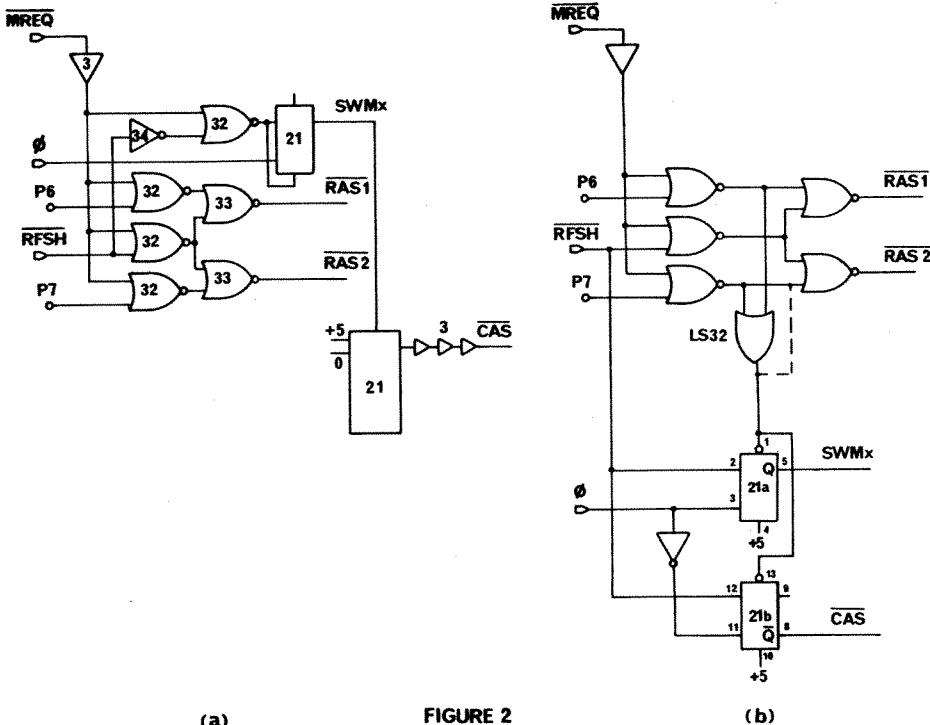

FIGURE 2
Now we have to produce a /CAS signal with an appropriate delay to replace the one generated by the multiplexer. There are various ways in which this could be done but an elegant solution, using only a single 74LS74, was shown recently by D. Allen (3). His circuit is shown in Fig. 2(b), and the relevant part of the original RAM A circuitry in Fig. 2(a). The latter uses only one half of the 74LS74, but by rewiring IC21 to the form of Fig. 2(b) both /CAS and the switch signal SWMx for the multiplexer can be generated. This works as follows: when /MREQ and /CS go low, /RAS is generated, thus latching the row address A0 to A7. At the same time, the reset line of both flip-flops goes high. The D input is /REF, which is high during memory access cycles, and so on the first positive edge of the system clock after /MREQ, IC21(b) flips, which switches the A8-A15 to the RAMs. On the next negative going clock edge, IC 21(a) flips /CAS low, latching the column addresses. During refresh cycles, the D input to both flip-flops is low and so neither switches and /CAS remains high, although /RAS goes low to strobe the row addresses providing refresh.